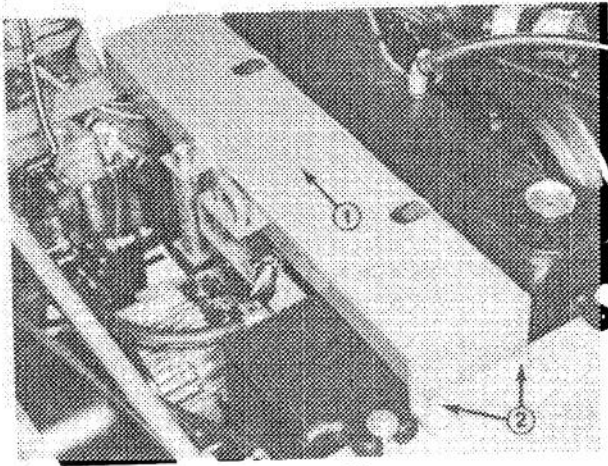

Figure 65
4. Unplug seat switch. Remove capscrews, lockwashers and flatwashers securing seat support to top of frame (Fig. 65). Set seat support aside.
3. Install seat support with capscrews, lockwashers and flatwashers. Connect seat switch (Fig. 65).